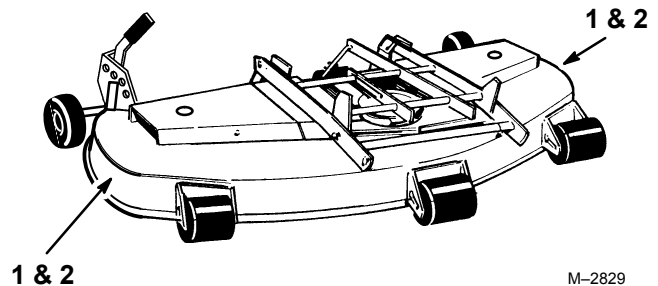

Figure 4
1. Remove backing paper and apply decal to both sides of mower (Fig. 4). Smooth from center to edges to remove air bubbles.